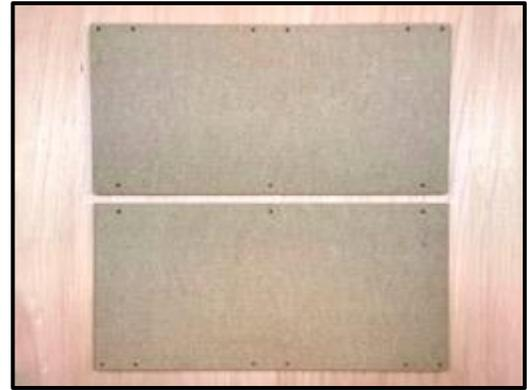

Figure 1-10
The two (2) MDF baseplates are identical and packed in the bottom of the shipping box. Identify the two MDF baseplates pictured in *Figure 1-10*.